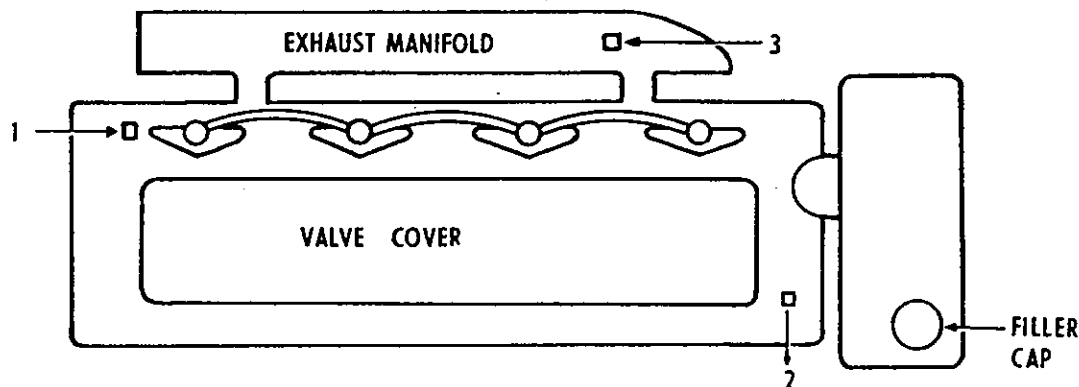

Fig. 20-Vent Points
1. Remove the square headed plugs in the top faces of the cylinder head and exhaust manifold marked 1, 2 and 3 in Fig. 20 and add water steadily to the cooling system header tank.